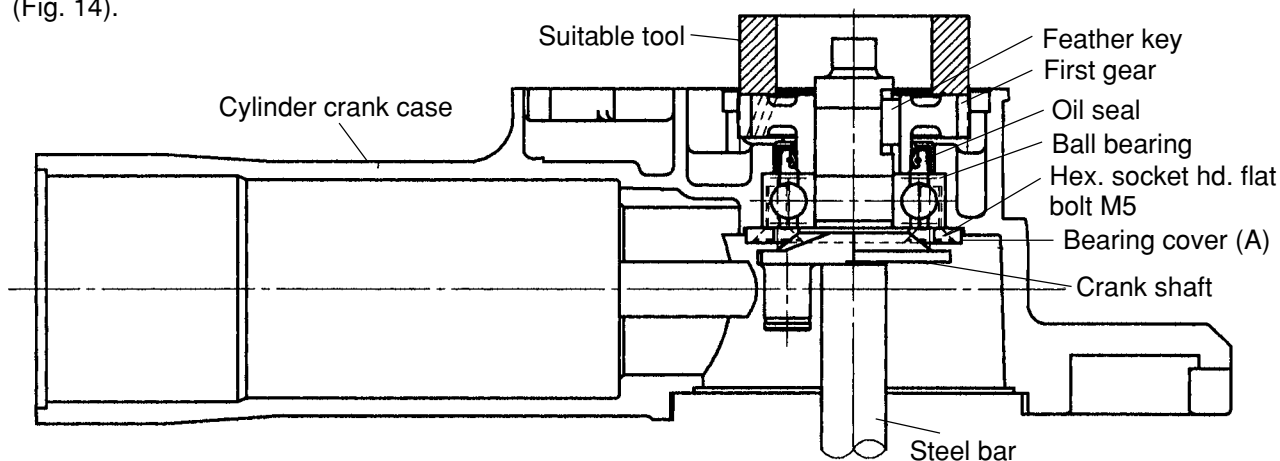

Fig. 14
Press-fit the Ball Bearing 6203DDCMPS2L [44] in the Cylinder Crank Case [46] and fix Bearing Cover (A) [43] with the two Seal Lock Hex. Socket Flat Hd. Bolts M5 x 12 [42]. Press-fit the Crank Shaft [40]. Then mount the Oil Seal [45]. Put the Feather Key 4 x 4 x 10 [41] into the groove of the Crank Shaft [40] and press-fit the First Gear [51] with a suitable tool while holding the flat portion of the Crank Shaft [40] with a steel bar. Before press-fitting, make sure that the Feather Key 4 x 4 x 10 [41] fits in the key groove of the First Gear [51] (Fig. 14).